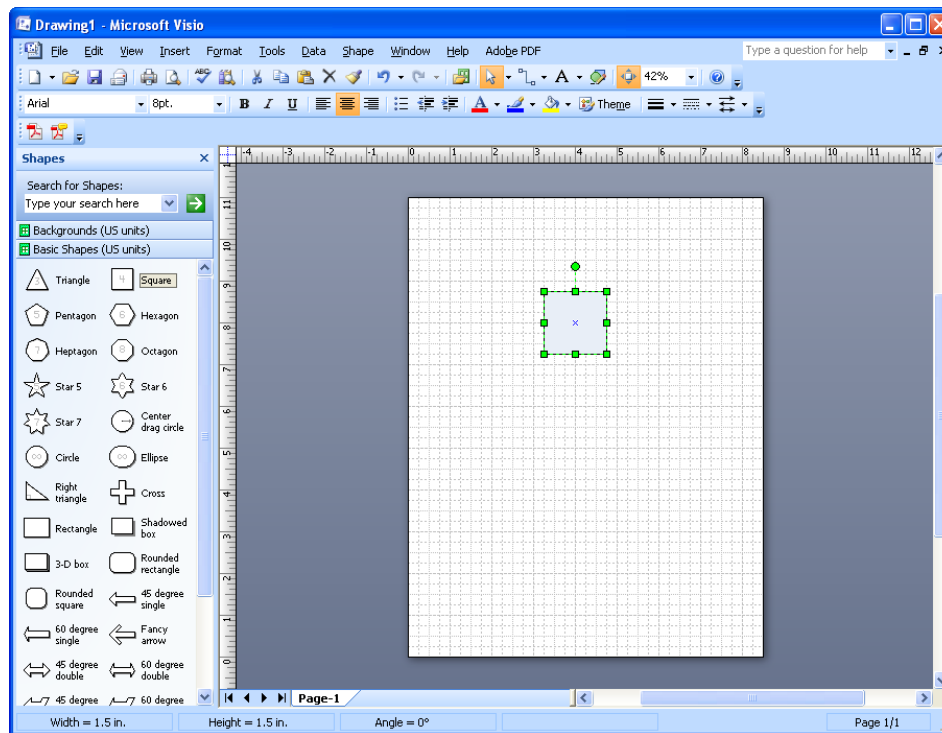

Figure 7 – Adding a Square Shape to the Drawing Page
7. Drag the **S**quare shape 4 onto the drawing page (see Figure 7).